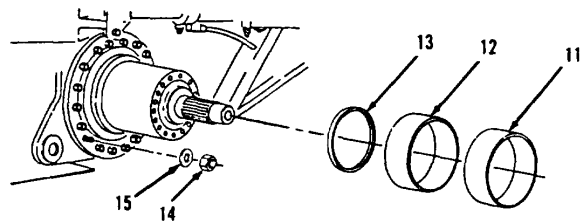
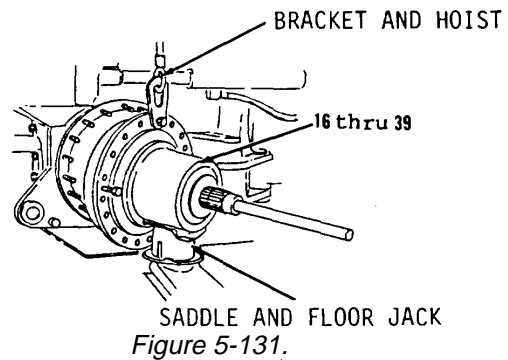

Figure 5-130.
Figure 5-131.
6. Remove rings (11 and 12) and washer (13, Figure 5-130) from lower rear, left side of vehicle. Discard seal (13).
7. Remove 19 nuts (14) and washers (15).
8. Using saddle and floor jack, support items 16 thru 39 as an assembly. Use rags between saddle and floor jack and items 16 thru 39 as an assembly (Figure 5-131) to prevent damage to housing.